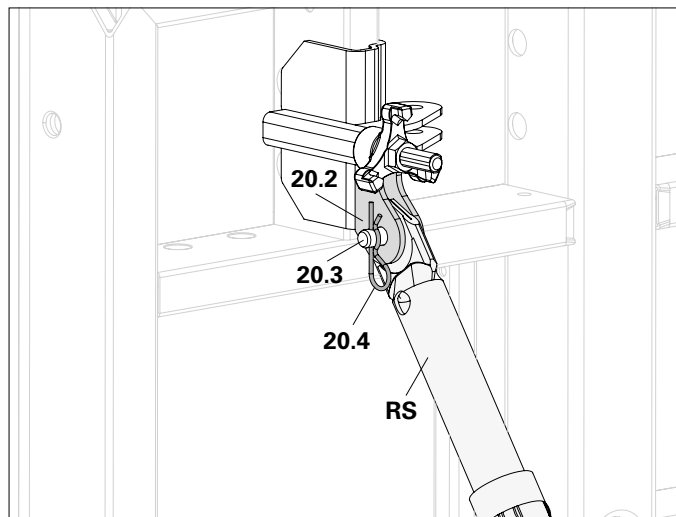

Fig. A6.01d
- Vertical assembly of the clamping head: connect Push-Pull Prop (RS) and connection lugs (20.2) with bolts (20.3) and cotter pins (20.4). (Fig. A6.01d)